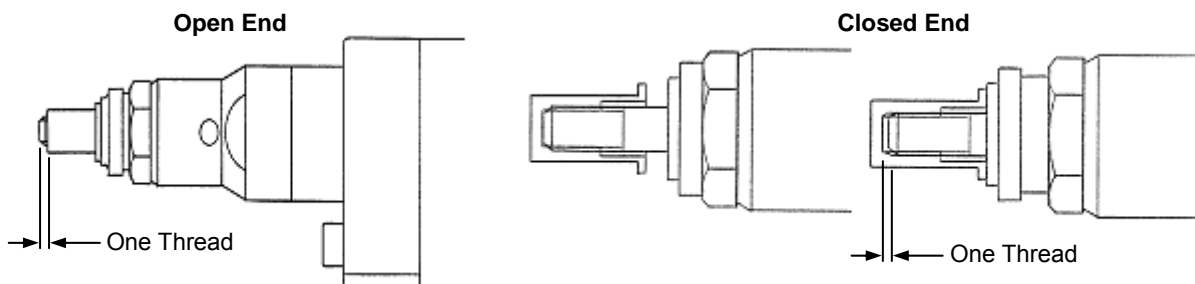

Figure 7: Proper Mandrel and Nosepiece adjustment
3. Thread the desired POP NUT™ onto the tool (see Figure 7).